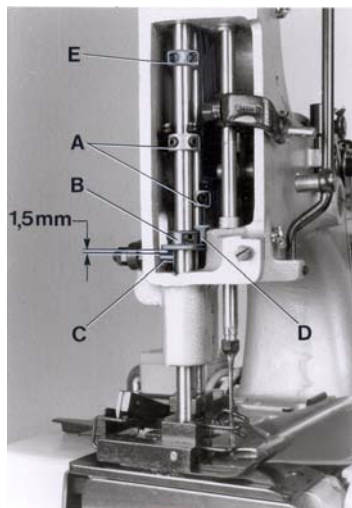
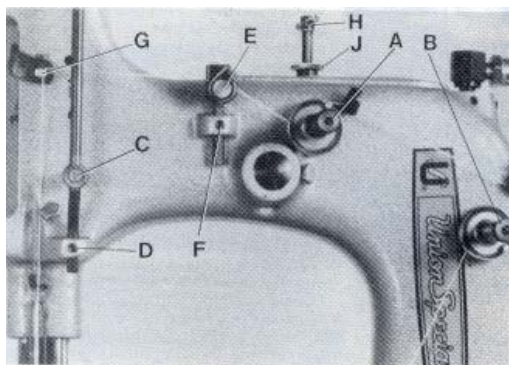

Fig. 11
Fig.12
Rotate the pulley until the feed dog is below the throat plate. Remove the face cover left on machine arm and turn out the T-screw (H, Fig. 12) on the top of the machine arm, until it does not exert any pressure on the leaf springs. In this position, the pressure exerted on the presser foot, should be just strong enough to keep it flat on the throat plate. By relocating the collars (A, Fig. 11), which serve as a leaf spring rest, on the left and right presser bar, the pressure can be changed. Raising the collars increases the pressure, lowering the collars decreases the pressure.
Set the presser bar lifter collar (B, Fig. 11) on the left presser bar so, that there is a distance of approx. 1.5 mm (1/16") between lifter lever stud (C) and lower surface of the lifter collar (B), when the presser foot rests on the throat plate (see Fig. 11). Set the collar (D) on the right presser bar close to the fork of the presser bar lifter collar (C) on the left presser bar.
Gire el volante hasta que los dientes del transportador se encuentren debajo de la placa de la aguja. Remueva la tapa frontal en el brazo y afloje el tornillo (H, Fig. 12) en la parte superior de la maquina hasta que no haya mas presión en las ballestas. En esta posición la presión al pie es solamente para mantenerlo plano en la placa de la aguja. Moviendo los anillos (A, Fig. 11), que sirven como soporte para las ballestas, en la barra de presión izquierda y derecha, se puede modificar la presión. Subiendo los anillos aumenta la presión, bajando los anillos disminuye la presión.
Coloque el anillo (B, Fig. 11) para levantar la barra de presión en la barra izquierda en tal manera para que haya una distancia de aprox. 1.5 mm (1/16") entre el perno levantador (C) y la superficie inferior del anillo (B), cuando el pie reposa en la placa de aguja (vea Fig. 11). Coloque el anillo (D) en la barra derecha cerca a la horquilla del anillo (C) para levantar la barra de presión de la barra izquierda.
On styles 80800TL and TAL set the collar (D, Fig. 11) on the right presser bar approx. 2.5 mm (7/64") above the fork of the presser bar lifter collar (B). This effects, when lifting the presser foot, that the left presser foot part is lifted first by approx. 2.5 mm (7/64"), before the right presser foot part will lift too.
The presser foot lift is limited with the upper stop collar (E, Fig. 11) on the left presser bar. When the needle is in its lowest position and the presser foot is lifted with presser foot bottom tilted up, the needle bar respectively needle clamp nut should not contact the presser foot bottom. Set collar (E) accordingly.
Now turn in T-screw (H, Fig. 12) until the necessary presser foot pressure for proper feeding is exerted (determine by sewing tests). Secure this setting with the knurled nut (J), which simultaneously fastens the upper arm cover. Remount the face cover.
The tension (A, Fig. 12) on the needle thread should be fairly strong to produce uniform stitches. On the two thread double locked stitch styles the tension (B) on the looper thread should be barely sufficient to steady it.
On the two thread double locked stitch styles 80800R, RL, TL, TAL, U, UA, UL and UAL, the height of the needle thread take-up roller (C, Fig. 12) is set so, that the needle thread on the downstroke of the needle just contacts the roll at the time the needle thread loop is released from the looper. Loosen screw (D) and set the needle thread take-up roller accordingly. Retighten screw (D).
En las maquinas 80800TL y TAL coloque el anillo (D, Fig. 11) en la barra de presión derecha aprox. 2,5 mm (7/64") encima de la horquilla del anillo(B) de la barra de presión izquierda. De esto resulta que, cuando se levante el pie, la parte izquierda del pie este levantado primero por 2,5 mm (7/64") antes de que la parte derecha del pie se levante también.
La altura del levantamiento del pie esta limitado por el anillo de parada (E, Fig. 11) en la barra de presión izquierda. Cuando la aguja este en su posición mas baja y el pie este levantado e inclinado hacia arriba, la barra de la aguja o la tuerca que fija la guía no deberían tocar la parte inferior del pie. Coloque el anillo (E) adecuadamente. Ahora ajuste el tornillo con forma de „T“ (H, Fig. 12), para conseguir la presión necesaria para una alimentación optima (determine esto con pruebas de costura). Asegure este ajuste con la tuerca (J), que al mismo tiempo fija la tapa superior del brazo. Coloque otra vez la tapa frontal.
El tensor (A, Fig. 12) del hilo de la aguja debería ser ajustado de tal manera que la tensión del hilo de la aguja produzca unas puntadas uniformes. En los estilos con costura de doble cadeneta de dos hilos, el tensor (B) debe ser ajustado apenas lo suficiente para mantener la costura.
En las maquinas de costura de doble cadeneta 80800R, RL, TL, TAL, U, UA, UL y UAL, la altura del rodillo (C, Fig. 12) del alimentador del hilo de la aguja esta fijado de manera tal, que el hilo durante el movimiento de la aguja hacia abajo solamente toque el rodillo en el mismo momento cuando el looper suelte el lazo del hilo de la aguja. Suelte el tornillo (D) y ajuste el rodillo del alimentador del hilo de la aguja adecuadamente. Apriete el tornillo (D) otra vez.
On all styles the eyelet (E, Fig. 12) should be positioned so, that the needle thread runs nearly horizontal, parallel to cloth plate, between eyelet (G) on needle bar connection and eyelet (E) on machine arm, when the needle is in its upmost position. Eyelet (E) is secured by screw (F).
En todos los estilos el ojete (E, Fig. 12) debería ser puesto para que el hilo de la aguja se mueva casi en forma horizontal, paralelamente a la tapa principal de la maquina, entre el ojete (G) en la conexión de la barra de la aguja y el ojete (E) en el brazo de la maquina, cuando la aguja se encuentre en su posición mas alta. Asegure el ojete (E) con el tornillo (F).